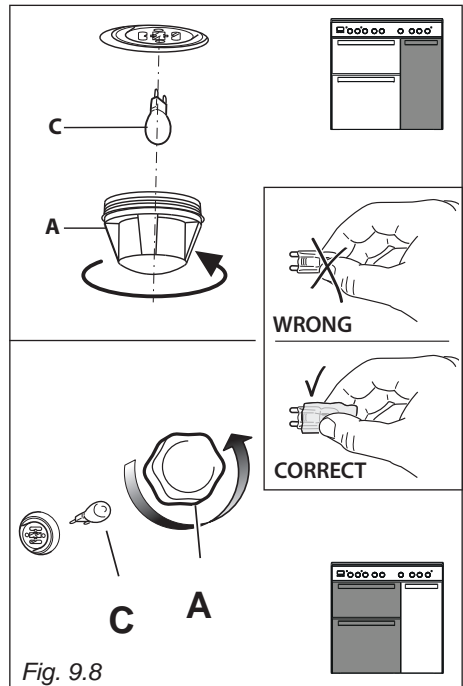

Fig. 9.8
- Remove the protective cover "A" (fig. 9.8).